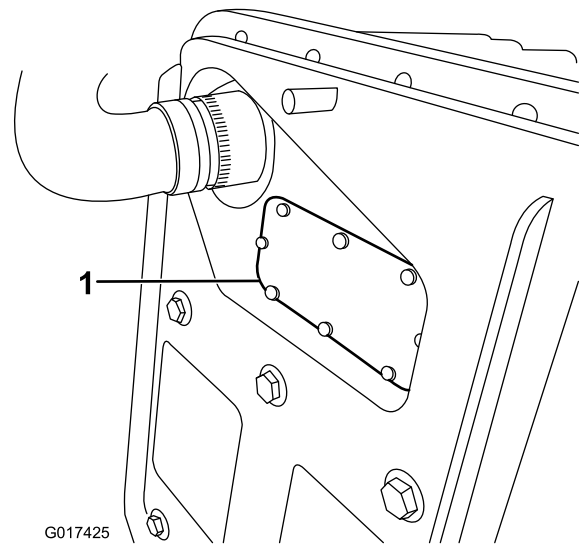

Figure 43
- B. Remove the fuse cover (Figure 43).